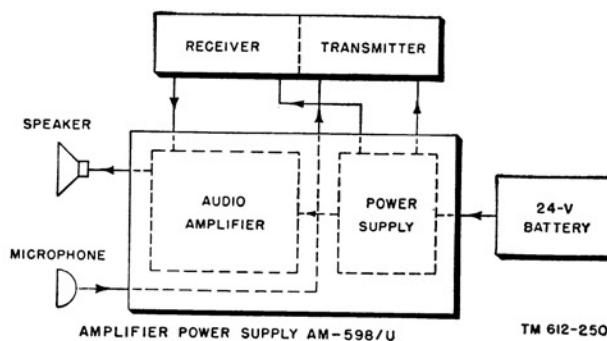

Figure 24. Amplifier Power Supply AM-598/U, system application.
*a.* Amplifier Power Supply AM-598/U is a vibrator type power supply which adapts Radio Sets AN/PRC-8, -9, and -10 for vehicular use. The power supply operates only from a 24-volt d-c source. It supplies the complete power requirements of the radio set and, in addition, contains an audio amplifier for operation of a 600-ohm speaker. A block diagram of the power supply installation is shown in figure 24. A detailed discussion of the power supply will be given in a separate instruction book, when published.